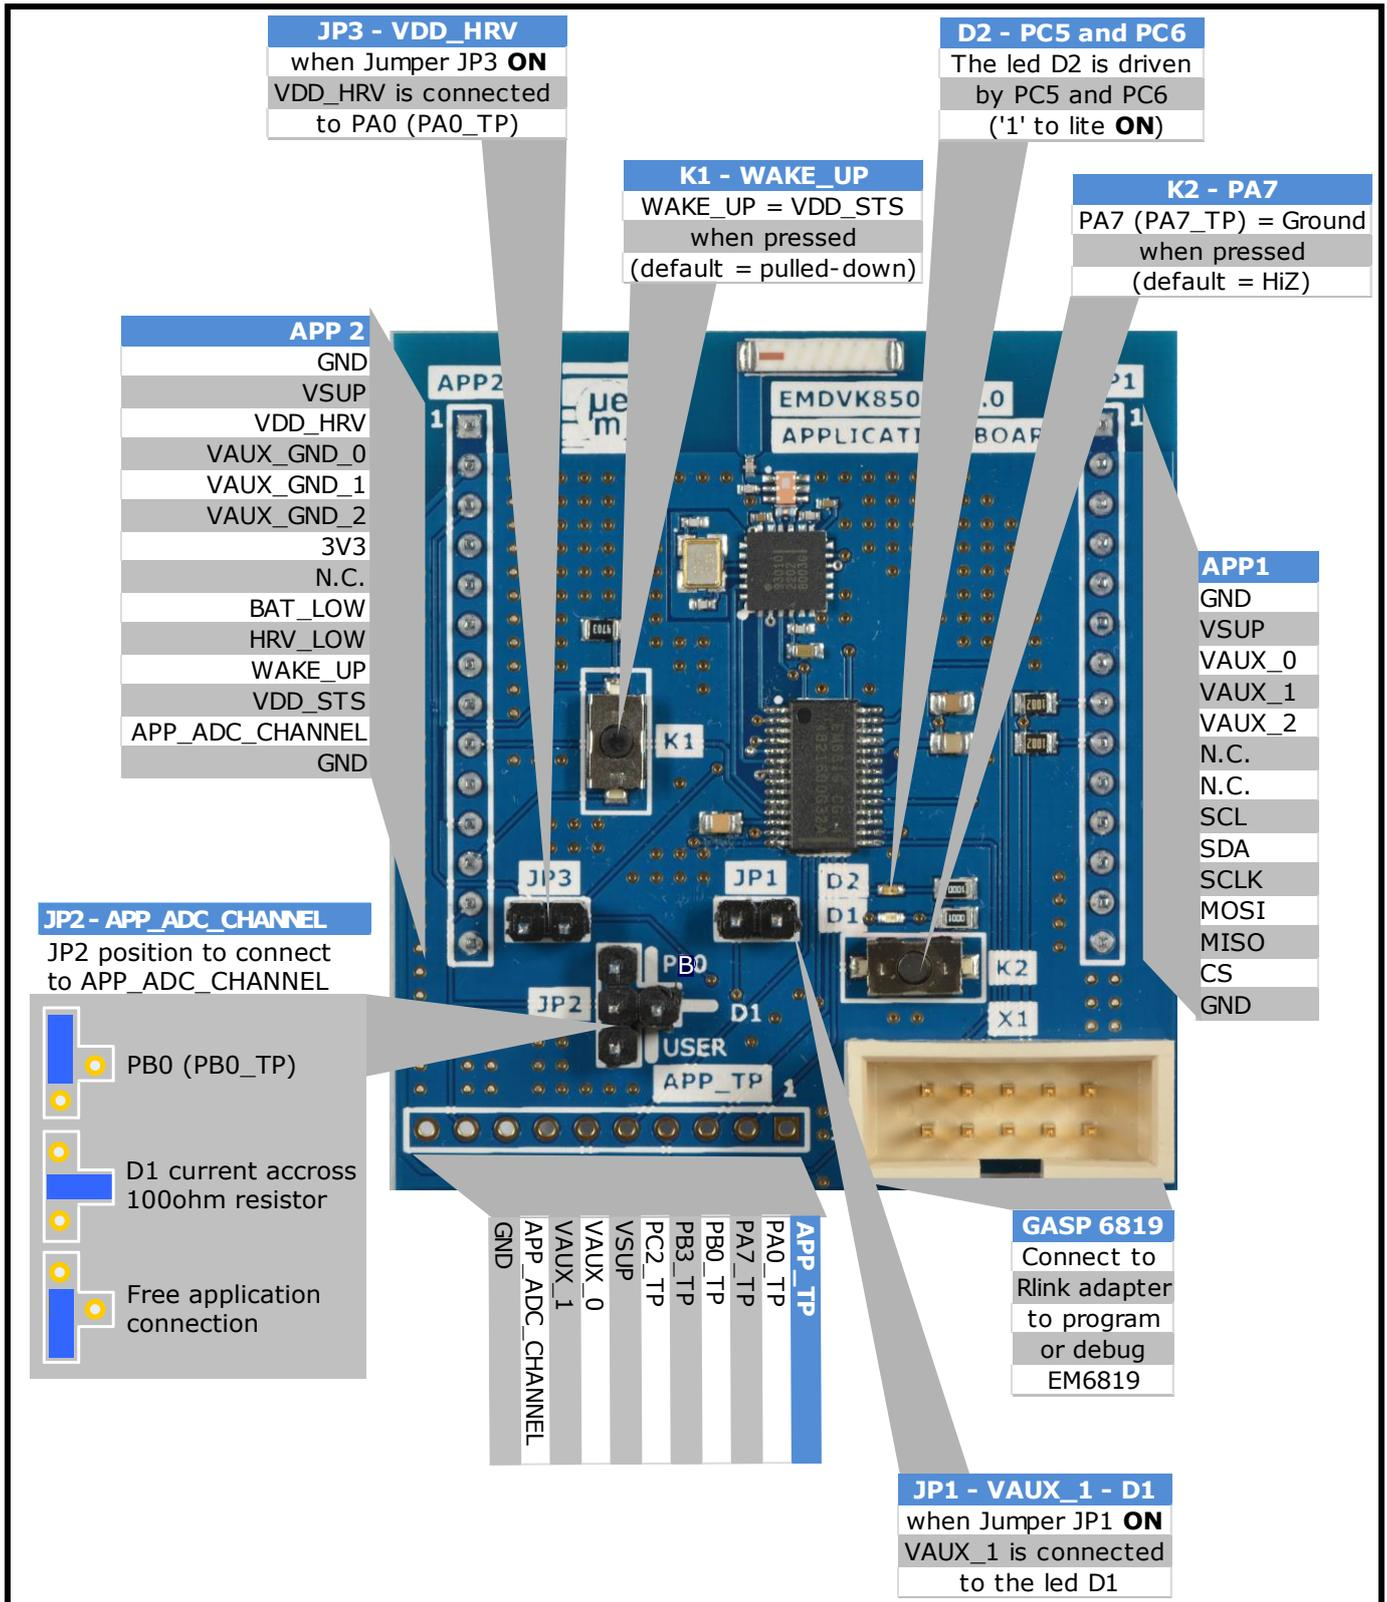
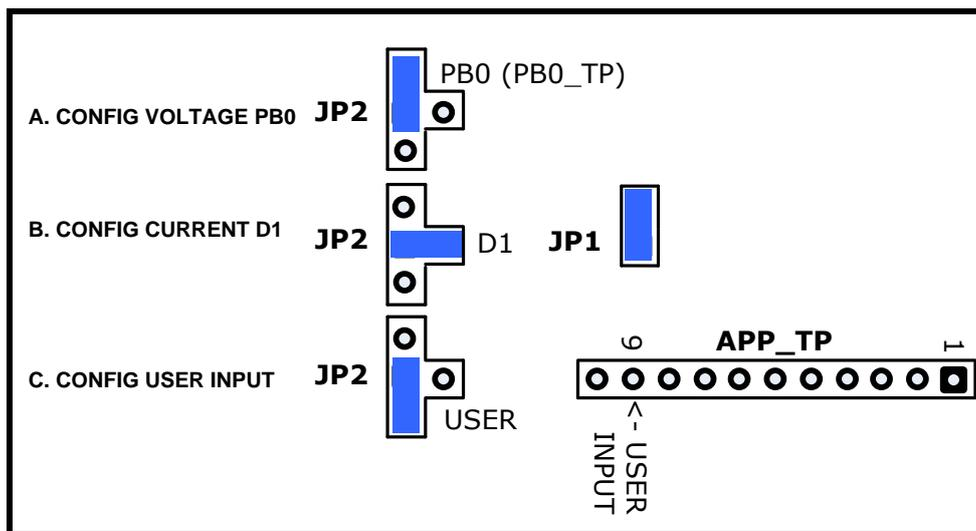

Figure 7-1: Application board description
Figure 7-3: Configuration for ADC application input
One ADC single-ended channel is used for application board node voltage measurements. The node is shown in Figure 7-1: Application board description as “APP\_ADC\_CHANNEL” or Figure 7-2: Application board schematic as “VAPP\_CHANNEL\_0” or summarized below in Figure 7-3: Configuration for ADC application input.
The source of this ADC channel is selected through jumper JP2 as shown on the Figure 7-1: Application board description.
- | By connecting JP2 in position “PB0” the EM6819 pad PB0 (GPIO Port B bit 0) is connected to the A/D channel APP\_ADC\_CHANNEL (“VAPP\_CHANNEL\_0”). See Figure 7-3: Configuration for ADC application input configuration A.
- | By connecting JP2 in position “D1” the voltage across the resistor R9 serially connected to the LED D1, is connected to the A/D channel APP\_ADC\_CHANNEL (“VAPP\_CHANNEL\_0”). Additionally, to monitor the LED D1 current, the jumper JP1 must be placed to power D1 from the VAUX1 output of the EM8500. See Figure 7-3: Configuration for ADC application input configuration B.
- | By connecting JP2 to position “USER” the user input is connected to A/D channel APP\_ADC\_CHANNEL (“VAPP\_CHANNEL\_0”). The user signal can be applied on the connector APP\_TP (pin 9). See Figure 7-3: Configuration for ADC application input configuration C.